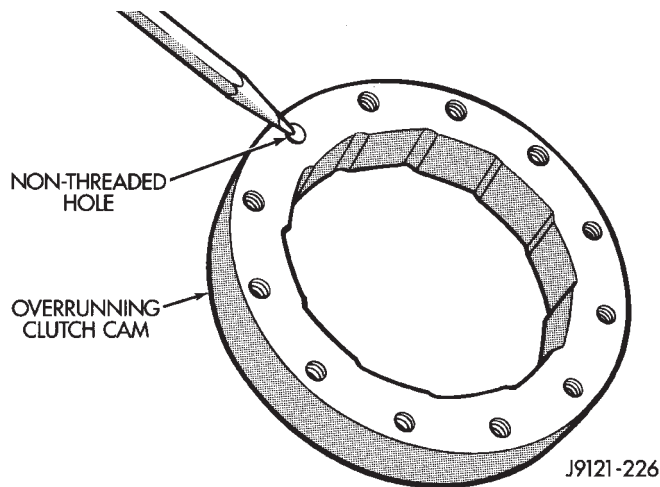
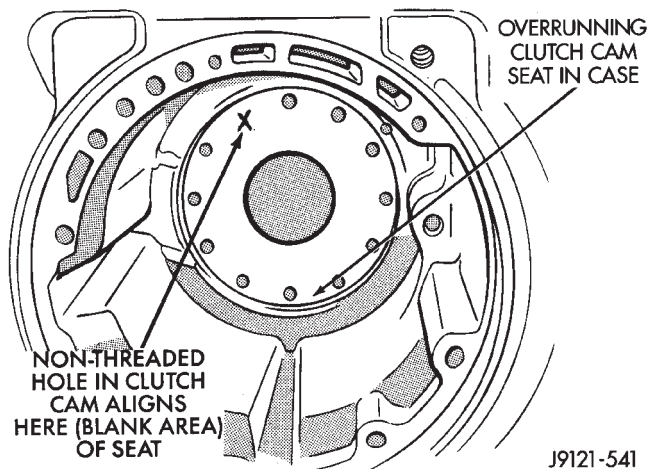
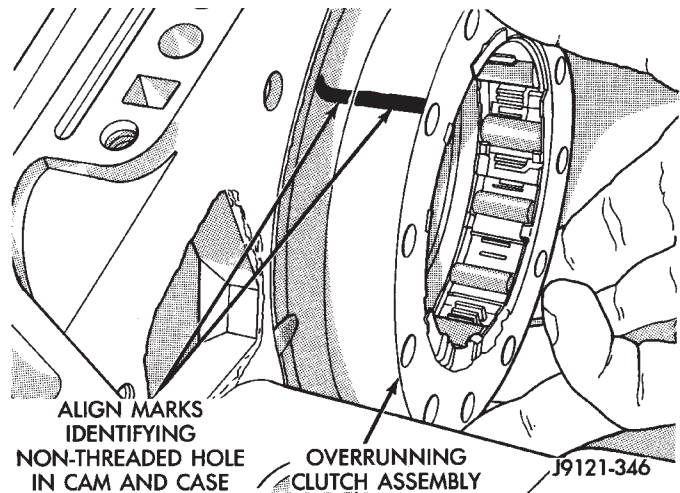

Fig. 129 Location Of Non-Threaded Hole In Clutch Cam
Fig. 130 Location Of Blank Area In Clutch Cam Bolt Circle
Fig. 131 Overrunning Clutch Installation
(1) Examine bolt holes in overrunning clutch cam. Note that one hole is **not threaded** (Fig. 129). This hole must align with blank area in clutch cam bolt circle (Fig. 130). Mark hole location on clutch cam and blank area in case with grease pencil, paint stripe, or scribe mark for assembly reference.
(2) Mark location of non-threaded hole in clutch cam and blank area in bolt circle with grease pencil.
(3) Align and install overrunning clutch and cam in case (Fig. 131). **Be sure cam is correctly installed. Bolt holes in cam are slightly counter-sunk on one side. Be sure this side of cam faces rearward (toward piston retainer).**